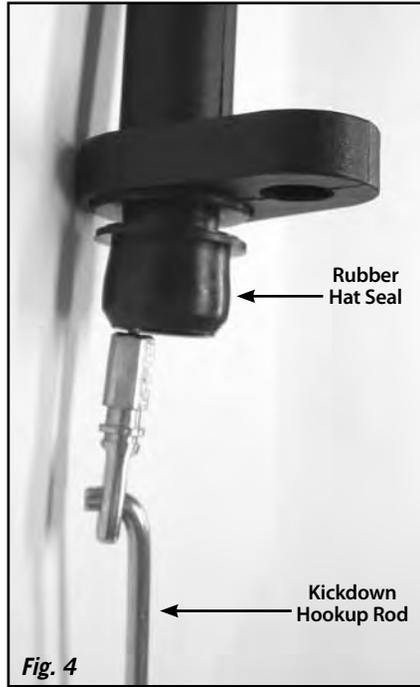

Fig. 4
Step 7: Lightly coat the rubber hat seal with clean transmission fluid. Install the rubber hat seal onto the transmission end of the kickdown cable housing, with the protruding lip at the top. **Fig. 4**
Step 8: Insert the kickdown hookup rod into the transmission into the hole in the transmission end of the kickdown inner cable. **Fig. 4**